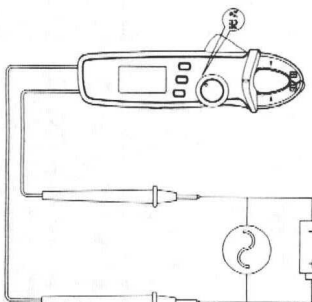

Figure 3
- Touch the test piece by red and black meter pen, for example, power socket (Figure 3).